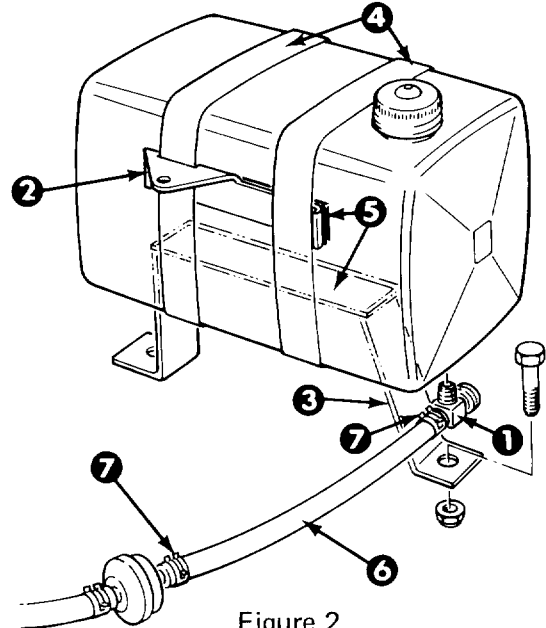

Figure 2
DECK MOUNTED TANK (Fig. 2)
1. Thread fuel valve into fuel tank, positioning valve opening as shown in fig. 2.
lator pads. Position isolator pads between mounts and tank. Secure straps with 1/4-20 capscrews and nuts as shown in fig. 2.